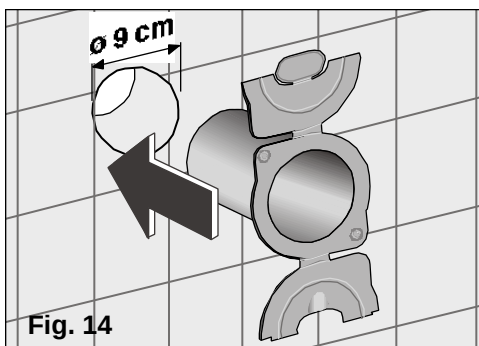

Fig. 14
- ❑ Make a hole measuring 9 cm in diameter in the wall and fit the Wall access accessories on the inside and the outside of the wall. Fig. 14.